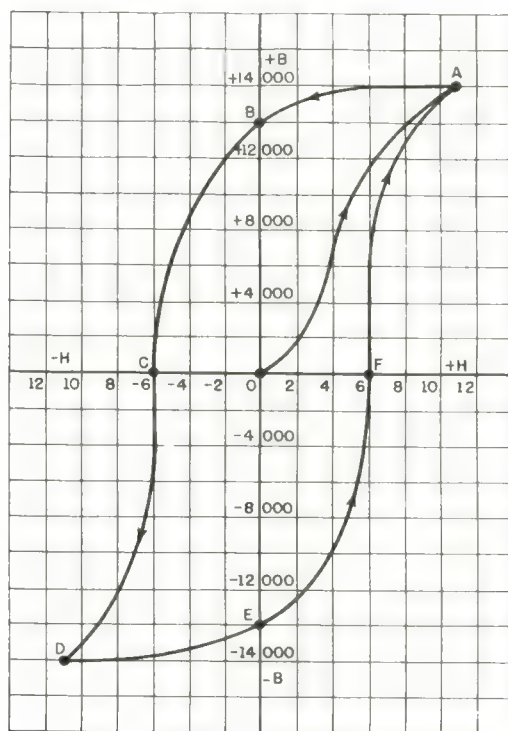

Figure H-5
hysteresis—Retardation of the effect when the forces acting on a body are changed, especially the magnetizing force acting on an iron core in an inductor. The magnetic field H causes some or all of the atomic magnets in the material to align with it, increasing the total magnetic flux density B . The aligning process, however, lags behind the application of the force. As shown in the graph, if H is strong enough all the atomic magnets become aligned in the same direction, so that B increases from 0 to A, but cannot increase further. This is called saturation. When the magnetizing force is diminished, the curve on the graph does not exactly retrace itself in reverse order, because the change in flux density B lags behind the change in field strength H . Even when H has decreased to zero, B still has a positive value (B), called remanence or retentivity, which has a high value for permanent magnets. B does not become zero (C) until H has gone somewhat negative. The value of H for which B is zero is called the coercive force, which therefore is the value of the demagnetizing force required to reduce the flux to zero. As H continues to go negative it causes the flux to build up in the opposite direction until it reaches saturation again at D. The graph shows a complete cycle, returning (via F) to the first saturation point (A). This graph is called a hysteresis loop. Broad loops are desirable for permanent magnets, narrow ones for transformer cores. *Transformers.* (See Figure H-5.)